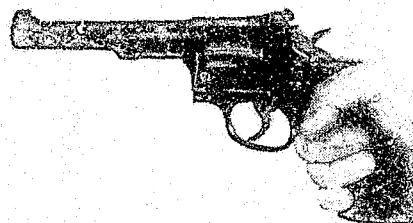

Figure 6-8
- b. Wrap the fingers around the grips and keep the thumb down. (See Figure 6-8) (Auto-Pistol thumb up or on top of safety)